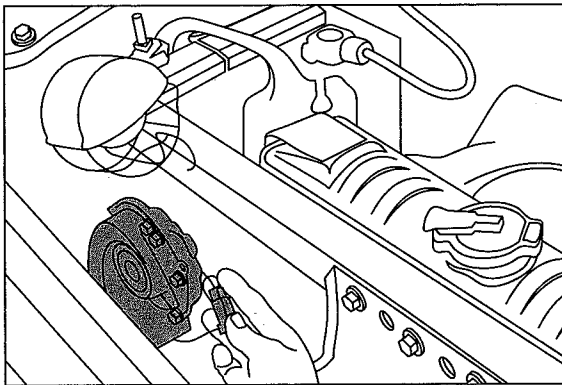

Figure 20-2:
- ✓ **If the horn is stuck**, your vehicle is producing what may be the worst noise it can make. *Before* this happens, have someone honk your horn until you can locate it under your hood. There are usually two horns. Each has a wire leading to it. If your horn gets stuck, pull these wires to stop the noise (see Figure 20-2) — sometimes you have to pull only one. When you have the horn fixed, tell the mechanic that you pulled the wires and find out why the horn got stuck. (If you can't get at the horn wires, disconnect one battery terminal or pull the fuse that goes to the horn to stop the noise.)